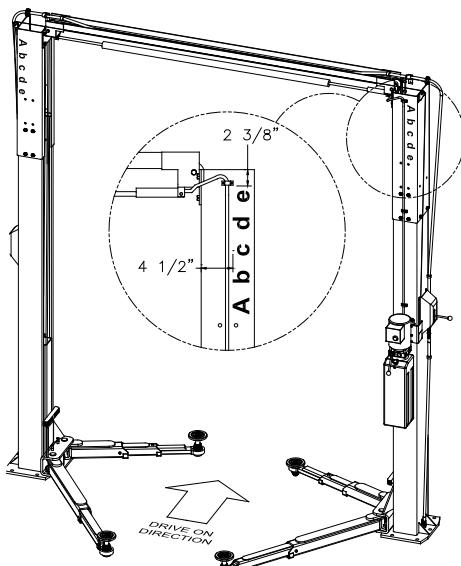

Fig 9 – Decal Placement
39) Apply decal to each column extension as described in **Fig. 9** below.